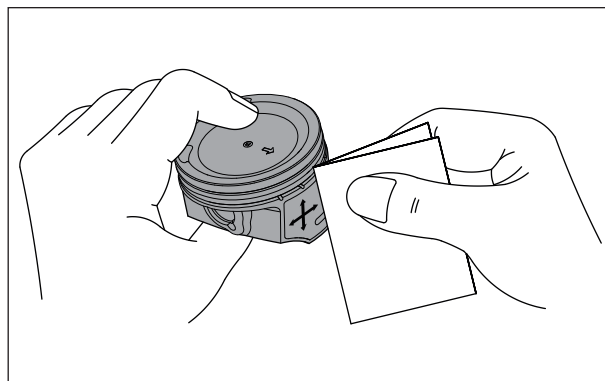

Fig. 3.89
- If a piston sliding surface is badly scored or scuffed due to overheating, it must be replaced. Shallow grooves or minor scuff can be removed by smoothing with a fine emery paper (400 grade). (Fig. 3.89) Inspect the piston for damage or crack. Replace if required.